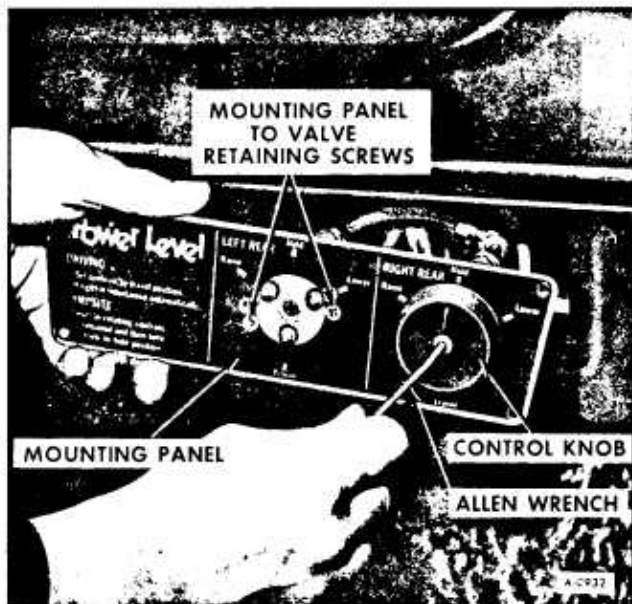

Figure 22—Removing Power Level Control Knobs and Panel
3. Remove control knobs by removing Allen head screw in center of knobs (See figure 22).